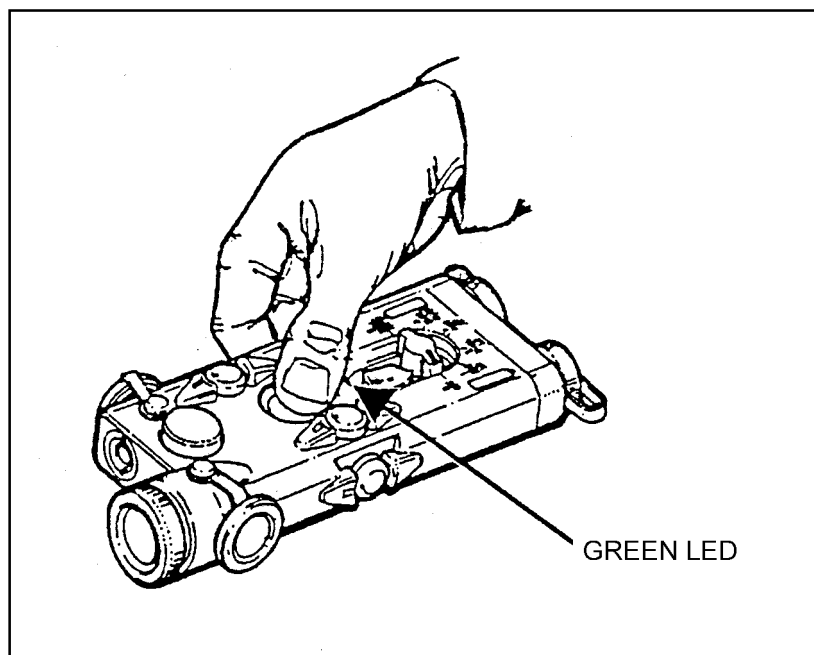

Figure G-13. Operation of the button switch.
d. **Button Switch** (Figure G-13, page G-18). The button switch is used when the AN/PEQ-2A is hand held. Pressing the button switch operates the AN/PEQ-2A in the operational mode set by the mode selector. When the button is released, the AN/PEQ-2A turns off. A green LED is incorporated into the body of the AN/PEQ-2A to indicate that the AN/PEQ-2A is ON. Whenever the AN/PEQ-2A is activated, the green LED lights and stays lit until the unit is turned OFF. If continuous operation of the AN/PEQ-2A is desired, pressing the button switch twice in rapid succession latches the AN/PEQ-2A to ON. The AN/PEQ-2A remains on until the push button is pressed a third time.